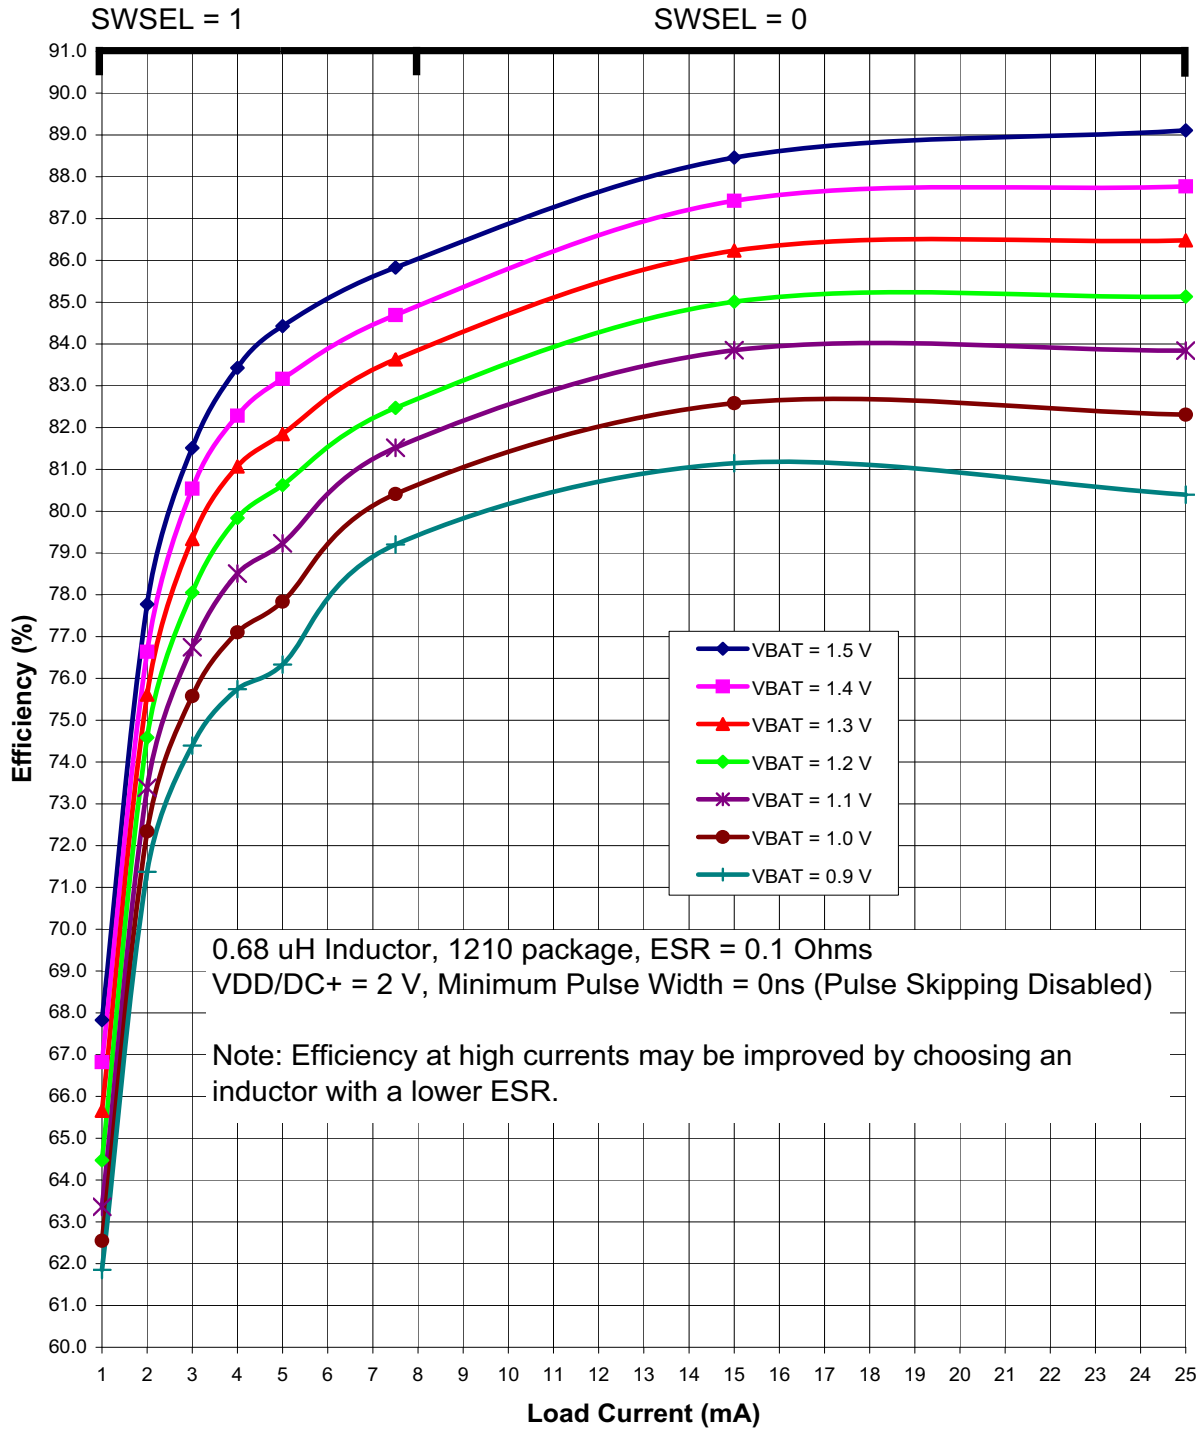
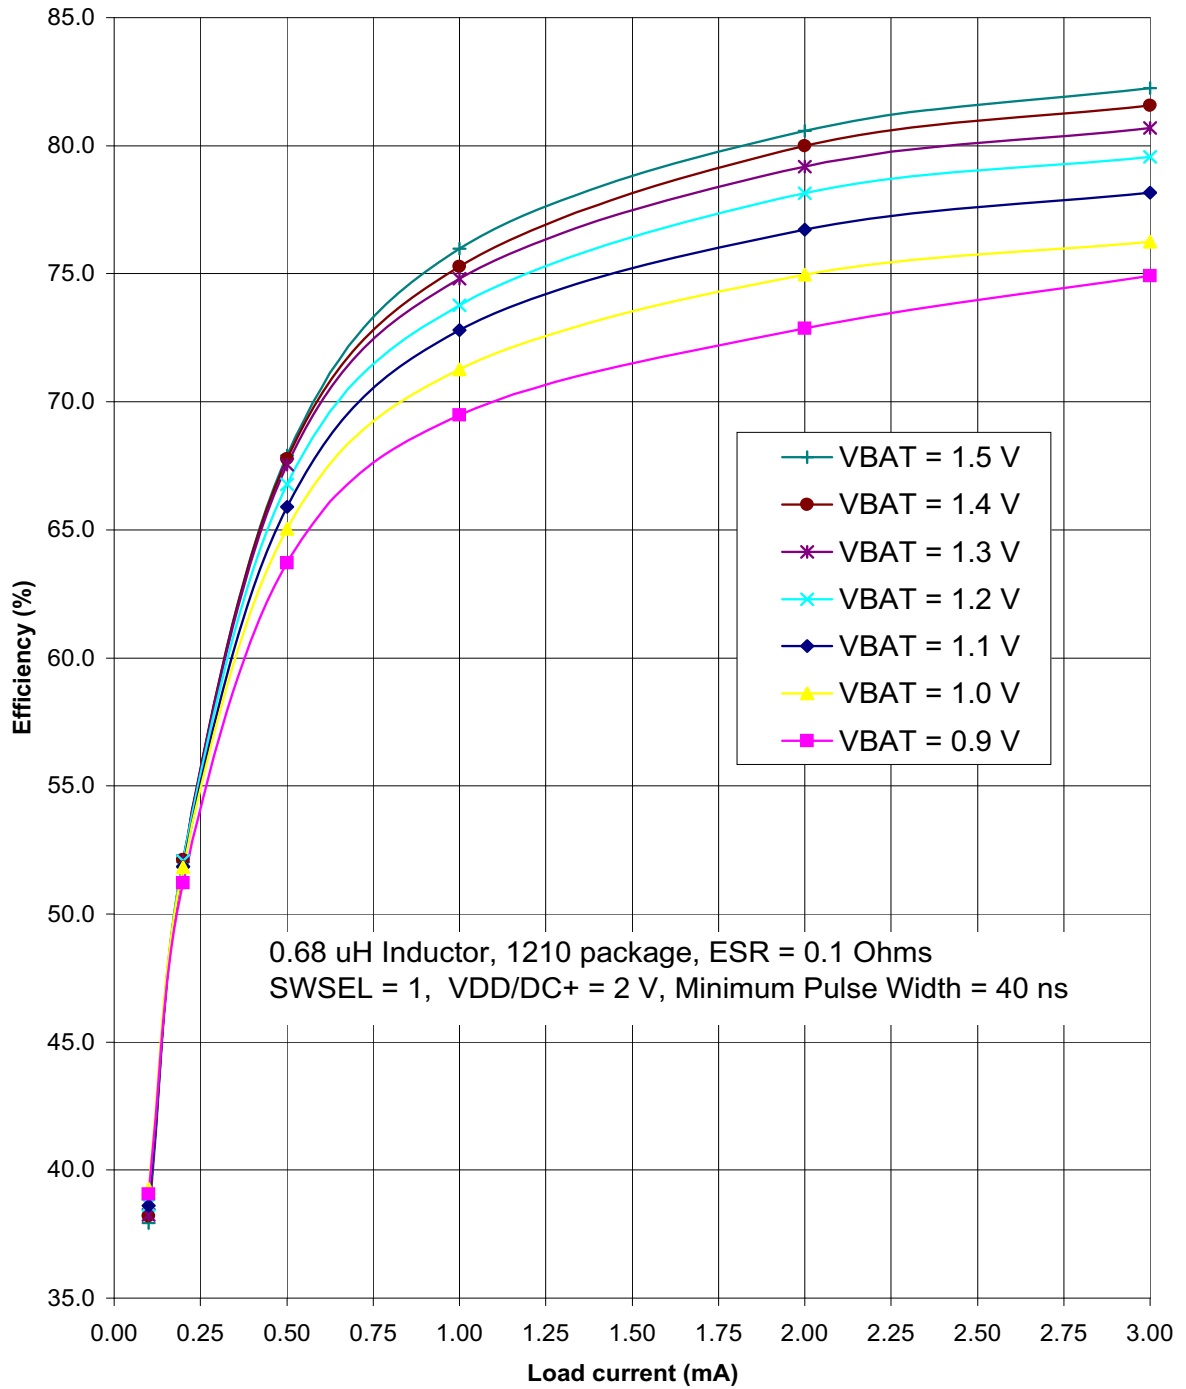

Figure 4.3. Typical DC-DC Converter Efficiency (High Current, VDD/DC+ = 2 V)
Figure 4.5. Typical DC-DC Converter Efficiency (Low Current, VDD/DC+ = 2 V)
<ol style="list-style-type: none"> <li>Based on device characterization data; Not production tested.</li> <li>SYSCLK must be at least 32 kHz to enable debugging.</li> <li>Digital Supply Current depends upon the particular code being executed. The values in this table are obtained with the CPU executing an "sjmp \$" loop, which is the compiled form of a while(1) loop in C. One iteration requires 3 CPU clock cycles, and the Flash memory is read on each cycle. The supply current will vary slightly based on the physical location of the sjmp instruction and the number of Flash address lines that toggle as a result. In the worst case, current can increase by up to 30% if the sjmp loop straddles a 64-byte Flash address boundary (e.g., 0x007F to 0x0080). Real-world code with larger loops and longer linear sequences will have few transitions across the 64-byte address boundaries.</li> <li>Includes oscillator and regulator supply current.</li> <li>IDD can be estimated for frequencies <math>\leq 14</math> MHz by simply multiplying the frequency of interest by the frequency sensitivity number for that range, then adding an offset of 90 <math>\mu</math>A. When using these numbers to estimate <math>I_{DD}</math> for <math>&gt; 14</math> MHz, the estimate should be the current at 25 MHz minus the difference in current indicated by the frequency sensitivity number. For example: <math>V_{DD} = 3.0</math> V; <math>F = 20</math> MHz, <math>I_{DD} = 4</math> mA – <math>(25 \text{ MHz} - 20 \text{ MHz}) \times 0.102 \text{ mA/MHz} = 3.5</math> mA assuming the same oscillator setting.</li> <li>The supply current specifications in Table 4.2 are for two cell mode. The VBAT current in one-cell mode can be estimated using the following equation:  <math display="block">\text{VBAT Current (one-cell mode)} = \frac{\text{Supply Voltage} \times \text{Supply Current (two-cell mode)}}{\text{DC-DC Converter Efficiency} \times \text{VBAT Voltage}}</math> <p>The VBAT Voltage is the voltage at the VBAT pin, typically 0.9 to 1.8 V.            The Supply Current (two-cell mode) is the data sheet specification for supply current.            The Supply Voltage is the voltage at the VDD/DC+ pin, typically 1.8 to 3.3 V (default = 1.9 V).            The DC-DC Converter Efficiency can be estimated using Figure 4.3–Figure 4.5.</p> </li> <li>Idle IDD can be estimated by taking the current at 25 MHz minus the difference in current indicated by the frequency sensitivity number. For example: <math>V_{DD} = 3.0</math> V; <math>F = 5</math> MHz, Idle <math>I_{DD} = 2.1</math> mA – <math>(25 \text{ MHz} - 5 \text{ MHz}) \times 0.079 \text{ mA/MHz} = 0.52</math> mA.</li> </ol>